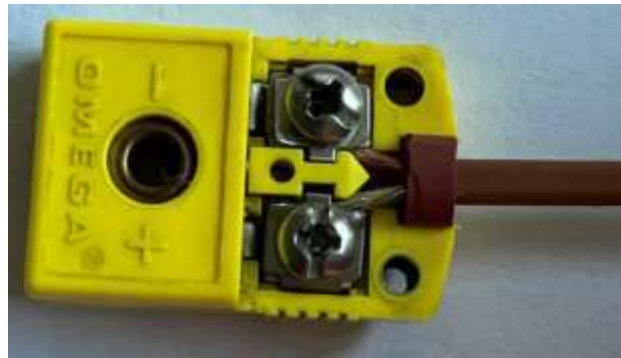

Figure 145
- (10) Place wires in new connector under the contact washers with the wire with yellow insulation under the Chromel (+) contact washer and the wire with red insulation under the Alumel (-) contact washer as shown in Figure 145. Ensure wire insulation does not protrude under contact washer.
- (11) Seat red grommet into grommet recess in connector body shown in Figure 145.